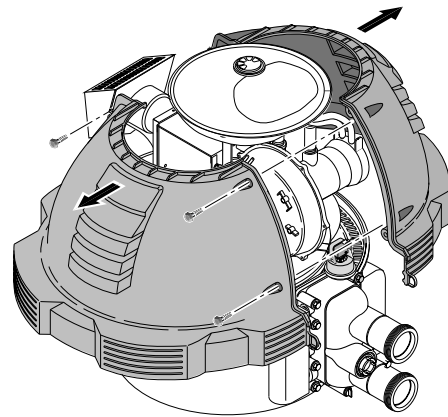

FIGURE 3: Removal of Jacket Covers
5. Remove the jacket cover(s) by unfastening the screws connecting both halves of the top jacket. See Figure 3.
- Remove jacket cover(s). See Figure 3.